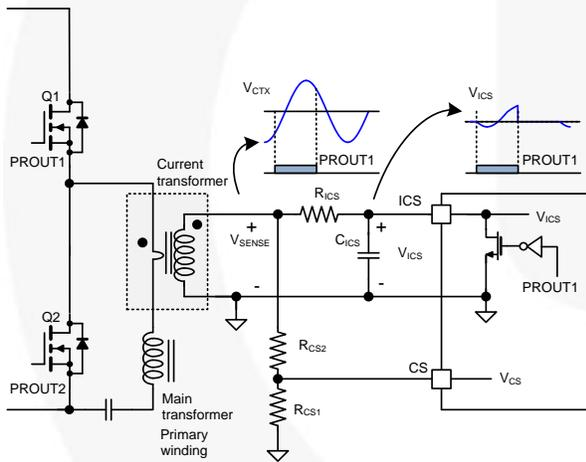
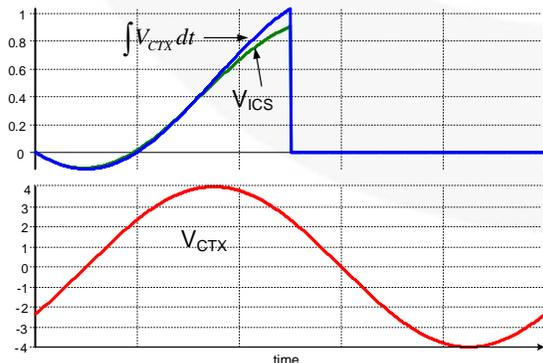
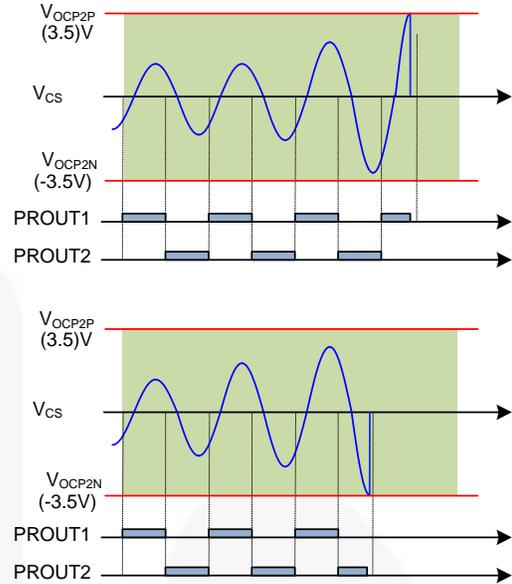

Figure 61. Current Sensing of FAN7688
Figure 62. Generating the Integral Signal (V_{ICS}) from V_{SENSE}
Figure 66. Over-Current Protection of the CS Pin
FAN7688 senses instantaneous switch current and the integral of the switch current as illustrated in Figure 61. Since FAN7688 is located in the secondary side, it is typical to use a current transformer for sensing the primary side current. While the PROUT1 is LOW, the ICS pin is clamped at 0 V with an internal reset MOSFET. Conversely, while PROUT1 is high, the ICS pin is not clamped and the integral capacitor (C_{ICS}) is charged and discharged by the voltage difference between the sensing resistor voltage (V_{SENSE}) and the ICS pin voltage. During normal operation, the voltage of the ICS pin is below 1.2 V since the power limit threshold is 1.2 V. The current sensing resistor and current transformer turns ratio should be designed such that the voltage across the current sensing resistor (V_{SENSE}) is greater than 4 V at the full load condition. Therefore the current charging and discharging C_{ICS} should be almost proportional to the voltage across the current sensing resistor (V_{SENSE}). Figure 62 compares the VICS signal and the ideal integral signal when the amplitude of V_{SENSE} is 4 V. As can be seen, there is about 10% error in the VICS signal compared to the ideal integral signal, which is acceptable for most designs. If more accuracy of the VICS is required, the amplitude of V_{SENSE} should be increased.
- (1) **Non-ZVS Prevention:** When the compensation voltage (V_{COMP}) is higher than 3 V and V_{CS} peak value is smaller than 0.3 V, non-ZVS condition is detected, which decreases the internal compensation signal to increase the switching frequency.
- (2) **Over-Current Protection (OCP2):** When V_{CS} is higher than 3.5 V or lower than -3.5 V, over-current protection (OCP) is triggered. The instantaneous primary side current is also sensed on CS pin. Since the OCP thresholds on the CS pin are 3.5 V and -3.5 V as shown in Figure 66, the CS signal is typically obtained from V_{SENSE} by using a voltage divider as illustrated in Figure 61. 150 ns debounce time is added for OCP.